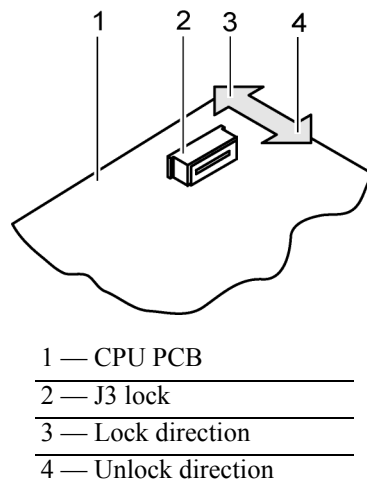

**Figure 6: Cases Separated**
3. Separate the NPB-40 front and rear case assemblies. See Figure 6.
4. Unlock connector J3 on the CPU PCB. See Figure 6 and Figure 7.